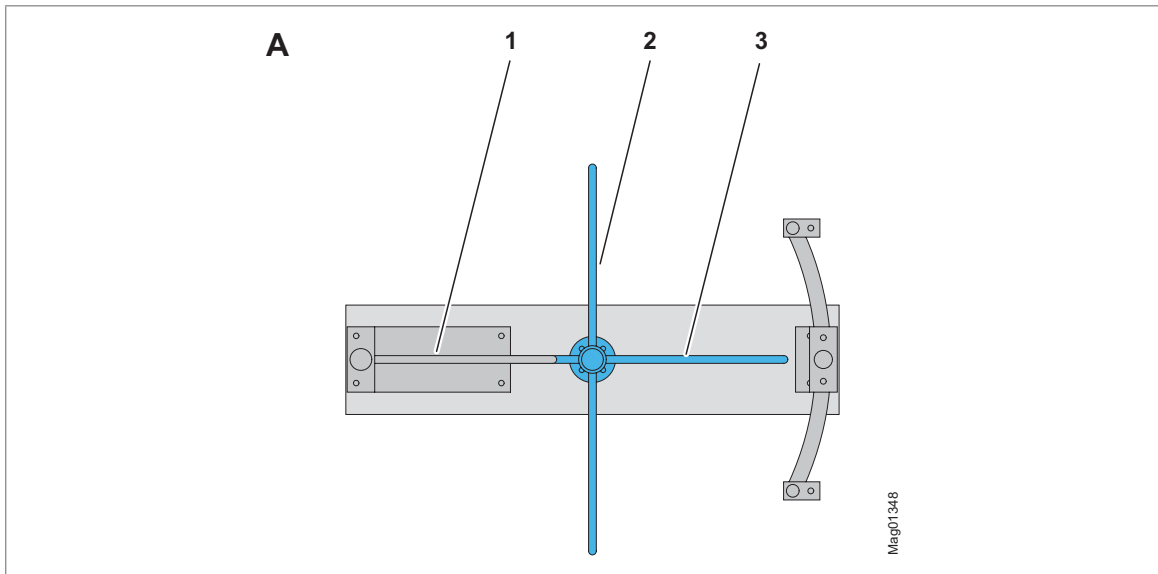

Fig. 46: Centre pillar alignment before mounting – MPT-333 (4x90°)
4. Fix the centre pillar to the locking flange from above using the four screws supplied. Make sure that the centre pillar is correctly positioned in relation to the locking unit. ↗ Page 74, Fig. 46.